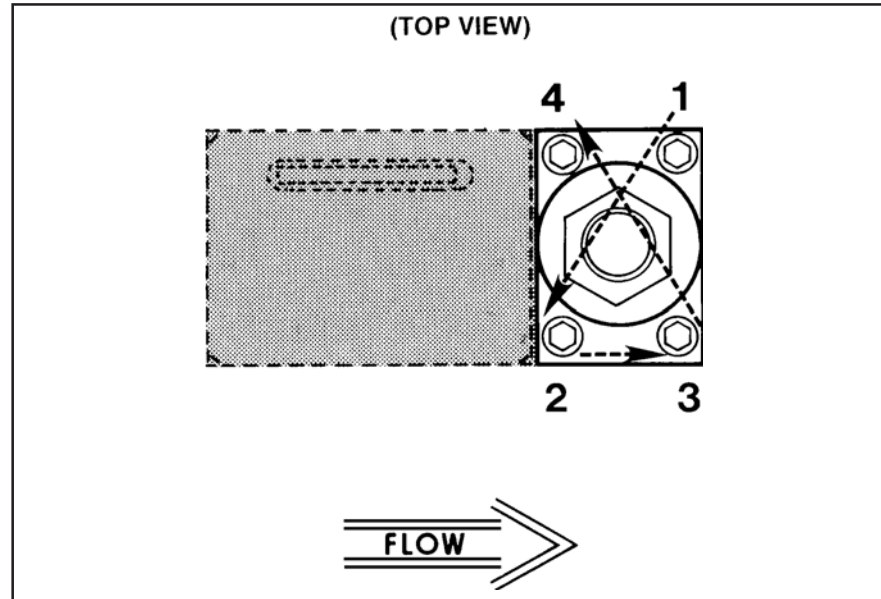

Figure 4-1 Torque Sequence for the Valve Retainer Plate
2. Place the restrictor O-ring (22) on the restrictor assembly. Screw the restrictor assembly (21) into the inlet side of the flow controller body using the restrictor tool, tighten hand tight.
3. Press the lubricated sensor O-rings (17) into the flow controller body (14). Install the sensor assembly and secure with two screws (18) and washers (19) tightened to 15 in/lbs.
4. Install the orifice (12) and its O-ring (13), using a 3/8 nut driver. Insure that the orifice is fully seated but do not overtighten.
5. Insert the valve preload spacers (10)(NC Valve) or (33)(NO Valve), if used, into the valve cavity in the flow controller body (14). Use care to preserve the correct order.
6. Place the spacers (9) and spring (8) on the valve seat (11) in the same order as noted in step 8 of the disassembly. Screw the valve seat (11) into the plunger assembly (7)(NC Valve) or (35,31,32)(NO Valve). Tighten the assembly until there is no looseness, but do not over-tighten.
7. Install the valve plunger assembly (7, 8, 9 and 11)(NC Valve) or (35,31,32,8,9,11)(NO Valve) on the preload spacers (10). Install air gap spacers (10), if used on top of the valve spring.
8. Install the valve stem assembly (6), secure with the valve retaining plate (4) and four hex socket screws (3). When installing the screws they should first make light contact with the plate, which should be checked to insure that it makes full contact around the stem assembly. Torque the screws securing the valve retaining plate in diagonal pattern (Refer to Figure 4-1) to 17 in/lbs.
9. Install the coil assembly (2) over the valve stem assembly (6)(NC Valve) or (34)(NO Valve) install extension spacer nut (3)(NO Valve) and secure with jam nut (1).
10. Install the printed circuit (PC) Board (15), secure with the bracket (24) and two screws. Plug the connector from the sensor assembly onto the PC Board. The flow arrow on the connector should be pointing toward the valve assembly.
11. Install the electronics cover (23) on the controller, secure with three screws (20). Plug the connector from the valve coil into the PC Board through the hole in the electronics cover.